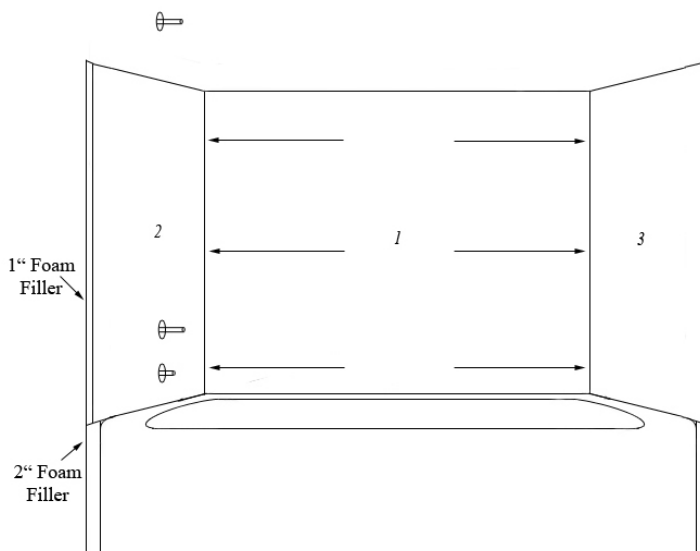

Figure 2.
- For proper fit, measure back wall horizontally in three areas: top, middle and bottom (see Figure 2). Dry fit the back panel (item 1) making sure that bottom edge is flush with the tub and each side is flush with the adjacent walls. Mark and trim edges as necessary. Panel should fit loosely from side to side.
- Check for squareness by placing the 30" facet end panel (item 2) so that the side is flush with the back panel. If there is an uneven gap between the end panel and the tub, mark (with crayon or wax marker) the uneven edge and trim with a jigsaw or block plane. Use a block plane or file to smooth the cut edge. Panel should extend past the tub approx 1" - 1 1/2". Use 1" & 2" Foam Filler Piece to support Leg Trims - items 8 & 9 (see Figure 2).
- To cut the holes for the plumbing fixtures, set the panel onto the tub and fit flush against the back wall panel. Slide the panel towards the plumbing pipe and press firmly to make a mark in the back of the panel (make sure pipe comes out straight from the wall). Repeat for each plumbing fixture on the wall (item 2).
- Install the water wall, making sure that all holes and edges are properly aligned (see Figure 2).